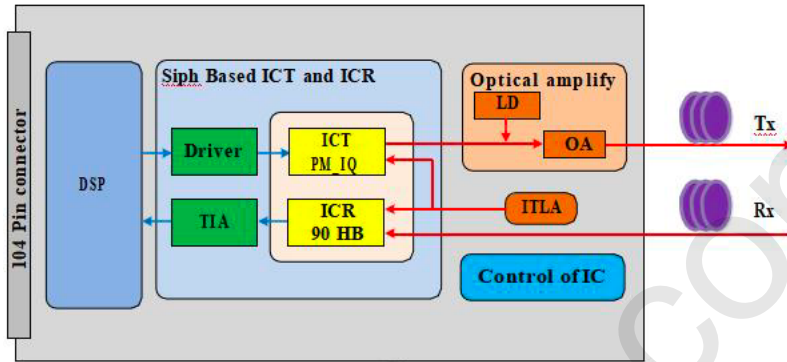

Figure1:Functional diagram of Module
The application field of the module is widely used from short haul (ZR) to Metro (MR) and Data Center Interconnection (DCI). As shown in Figure 1, it is comprised of high-data lanes, a single 3.3V power supply, an MDIO interface for module control and status report, and dedicated alarm and control pins (not shown on the figure 1).